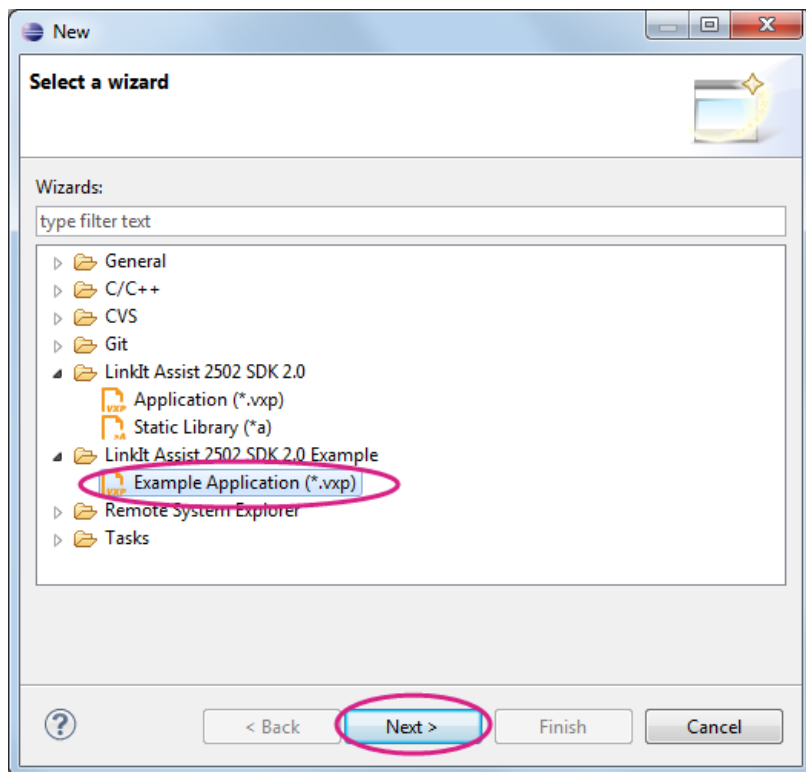

Figure 24 Selecting LinkIt Assist 2502 example code
- 1) In the Eclipse IDE **File** menu, point to **New** and click **Other**, or use the CTRL+N keyboard shortcut. The **New** window displays. Expand the **LinkIt Assist 2502 SDK 2.0 Example** folder, select **Example Application (*.vxp)** and click **Next** as shown in Figure 24.